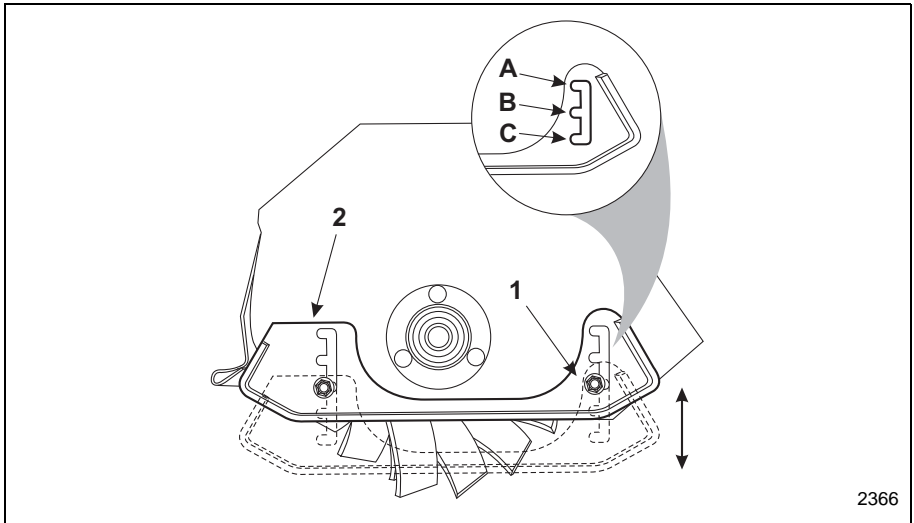

Figure 11 Tiller Depth Adjustment
2. Loosen the nuts (Item 1, Figure 11) securing the two carriage bolts, but do not remove the nuts or carriage bolts.
3. Slide the skid shoe (Item 2, Figure 11) along the "E" shaped guide slot to the appropriate depth setting.